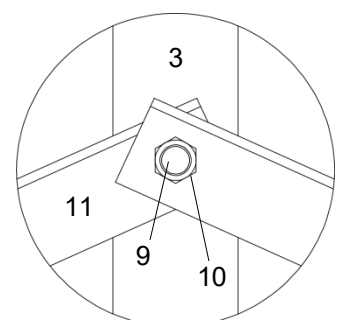

Fig. 6
6. Fix the alu struts (11) in the corresponding drillings of the supporting frame using the screws (9) and nuts (10) (Fig. 6). The required drillings on the alu strut have to be made on site. The first alu strut has to be mounted from the lower drilling of the first supporting frame to the upper drilling of the second supporting frame. The second alu strut has to be mounted from top to bottom.